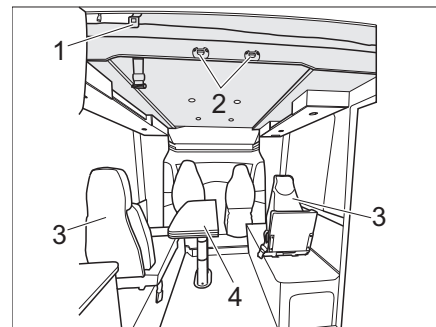

Fig. 167 Electrical pull-down bed (variant 3)
- Hook the access ladder to the pull-down bed by attaching both brackets into the U-bolts (Fig. 167,2).
- Lower the lowerable 2-legged folding table (Fig. 167,4) (see section 7.8.8).
- Remove 2 individual seats (Fig. 167,3) and stow them.